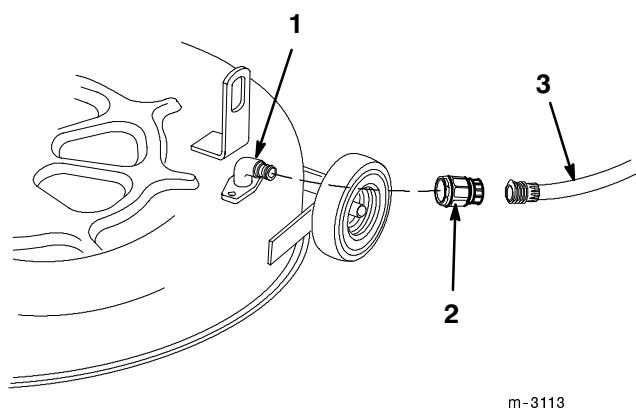

Figure 33
2. Attach the hose coupling to the end of the mower washout fitting, and turn the water on high (Fig. 33).